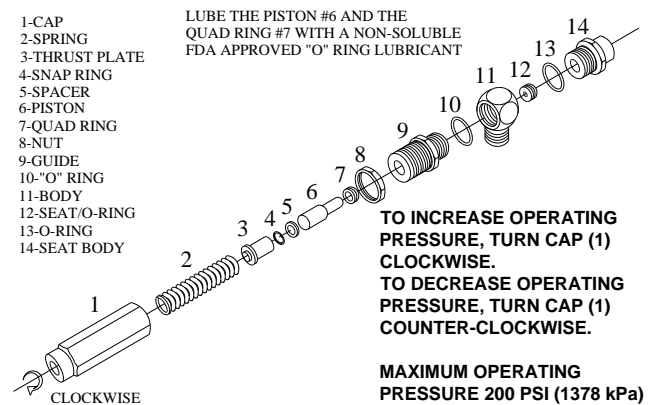

FIGURE 6: PRESSURE REGULATOR
1. Lube the piston (Fig.6, #6) and the quad ring (Fig.6, #7) using a non-soluble FDA approved o-ring lubricant every 6 months. More often if the water is high in hardness.
3. Remove the piston guide (Fig.6, #9).